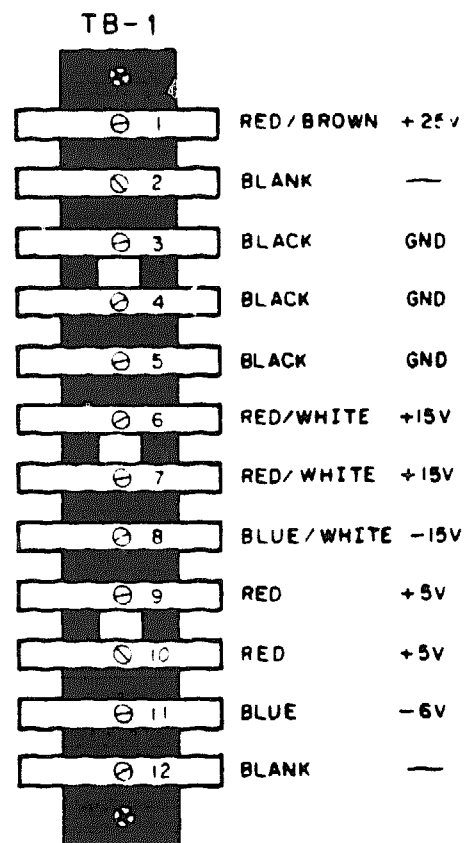

Figure 5-24. POWER TERMINAL STRIP TB-1
1. DC Voltage Checks - Using a digital voltmeter for all DC voltage measurements, connect the ground lead of the meter to pin 5 of the power terminal strip TB-1. See Figure 5-24. Connect the other meter lead to the points listed to test all DC voltages.